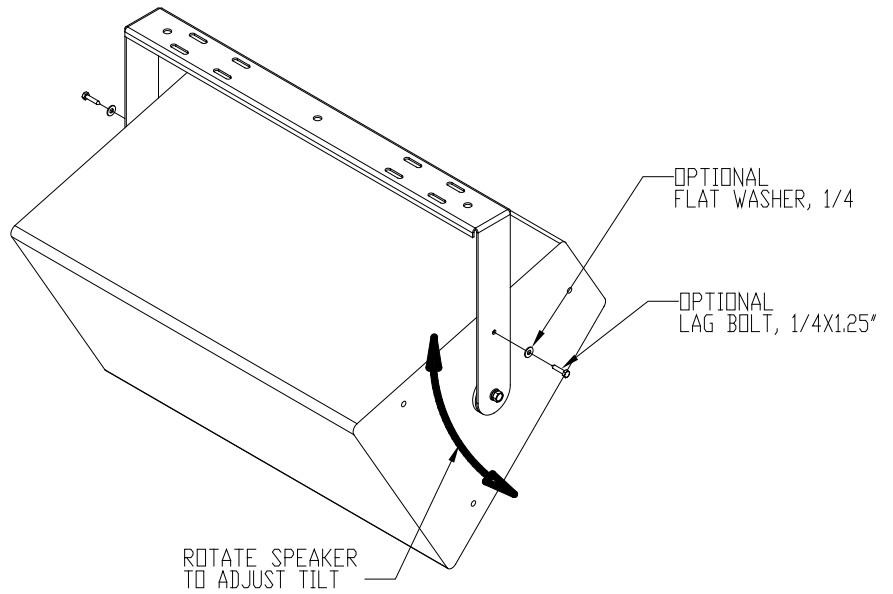

Figure 2
Step 4: Rotate the loudspeaker into the desired direction then tighten the side bolts permanently. To permanently set the speaker angle, insert the included 1/4" lag bolts through the unused arm hole and into the loudspeaker cabinet (Figure 2).